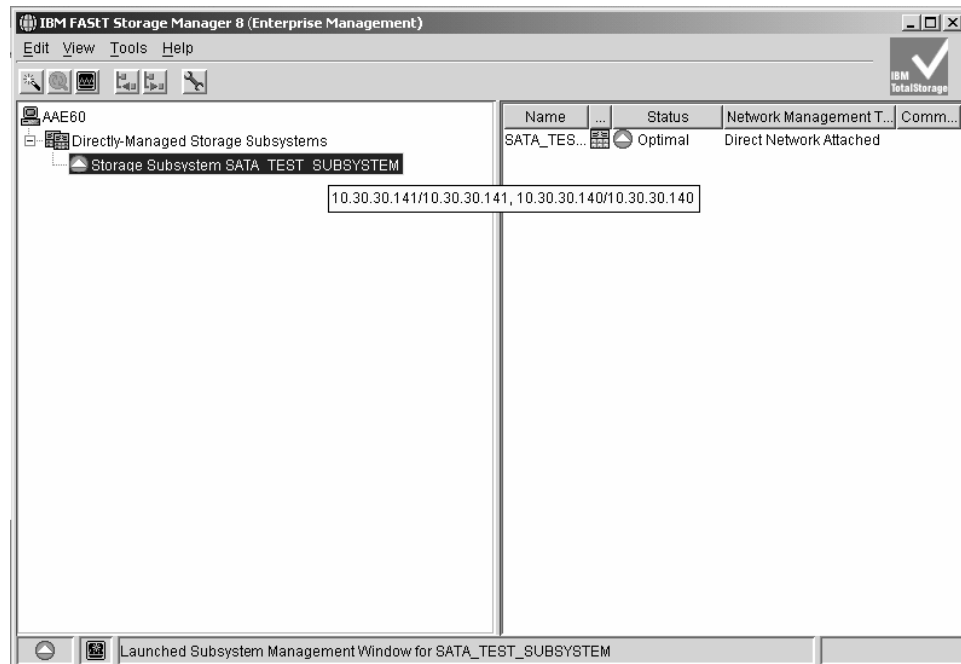

Figure 49. Only one entry appears in the Directly-Managed Storage Subsystem tree
- If Controller A starts up successfully after synchronizing with the firmware and NVSRAM in Controller B, Controller A and Controller B will be displayed as a single entry under the Directly-Managed Storage Subsystem tree in the Enterprise Management window as Figure 49 shows. Right-click the entry for Controller B and select **Manage Device**. A Subsystem Management window should open without being preceded by the Partially Manage Device window.